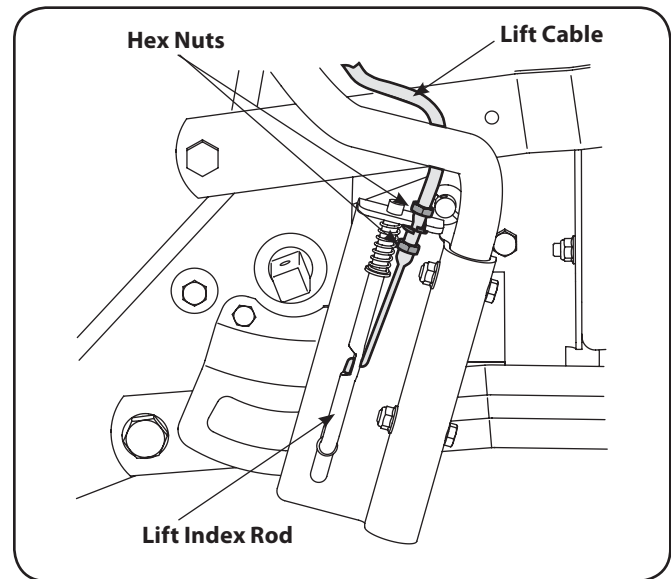

Figure 3-15
If the lift index rod, as seen in Fig. 3-15, doesn't latch securely or the pivot release has too much slack in it, an adjustment can be made as follows:
1. Loosen the upper hex nut a few turns, then tighten the lower hex nut to shorten the cable length. See Fig. 3-15.
2. Loosen the lower hex nut a few turns, then tighten the upper hex nut to lengthen the cable. See Fig. 3-15.